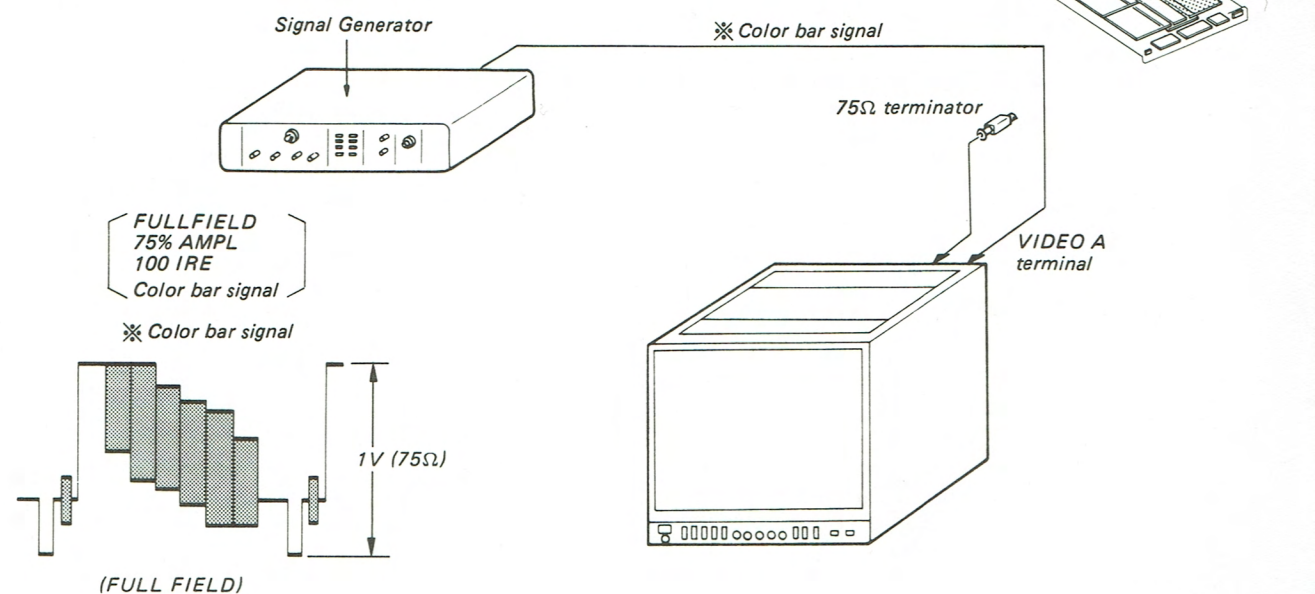

Fig. 42-1.
1. Connect as shown in Fig. 42-1.